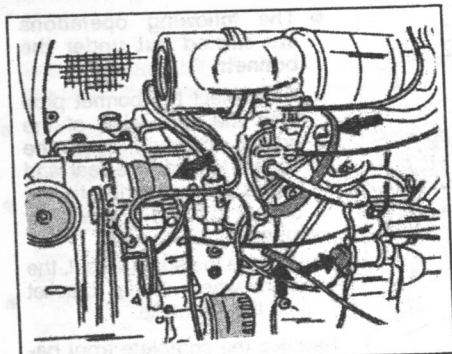

Fig. 1.10. — View of the engine compartment. Cables must be disconnected at the points shown by the arrows.
- The following cables can be disconnected by referring to Fig. 1.10 (shown by the arrows): The starter motor cables, the alternator cables, the cables from the oil pressure switch and the cables from the fuel cut-off valve. Also disconnect the fuel hose from the fuel pump.